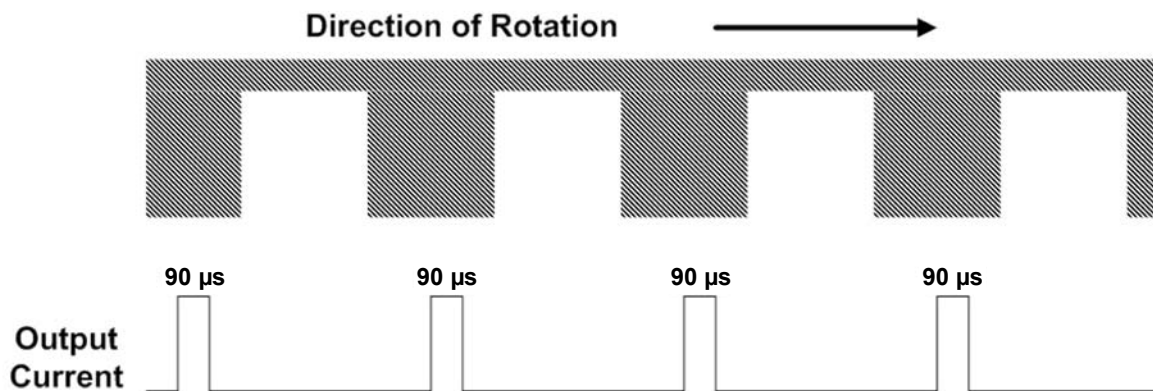

Figure 2. Target rotation to the left (CCW) relative to the sensor gives reverse speed.
**Rotation Left.** Referring to figure 2, when the target changes direction, the sensor outputs a current pulse of or 90  $\mu$ s, twice as long as the Rotation Right pulse width. The maximum speed is limited by the width of the pulse and the shortest Low-State Duration the controller can resolve.